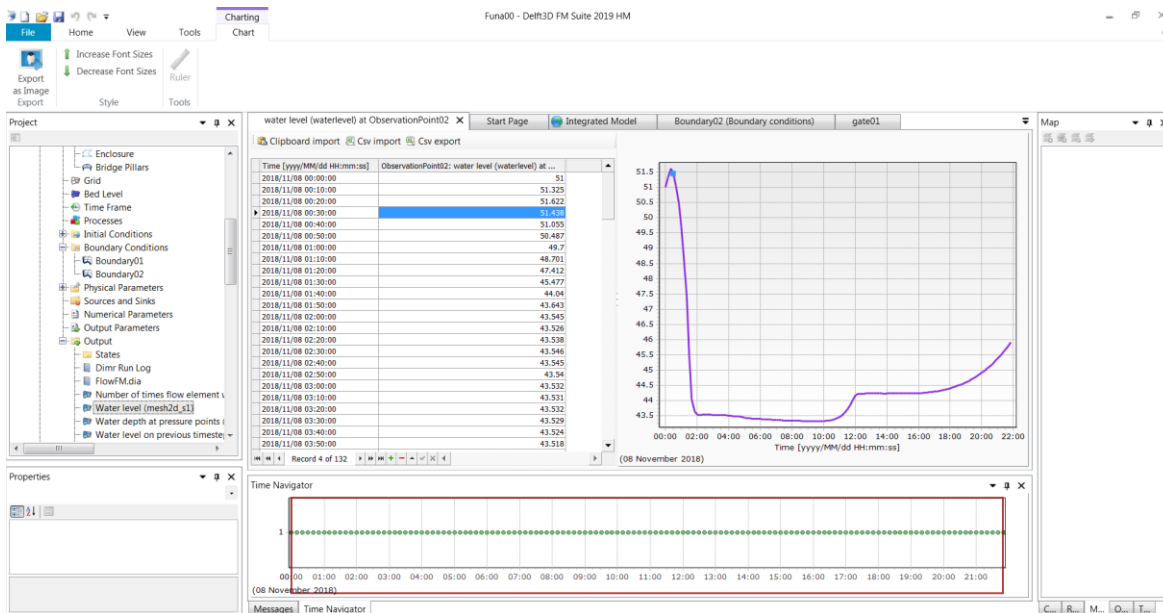

Figure 3.8 History file: check the water level upstream the dam (step C: visualize the results)
- Click *Ok* to visualize the results (see Figure 3.8).